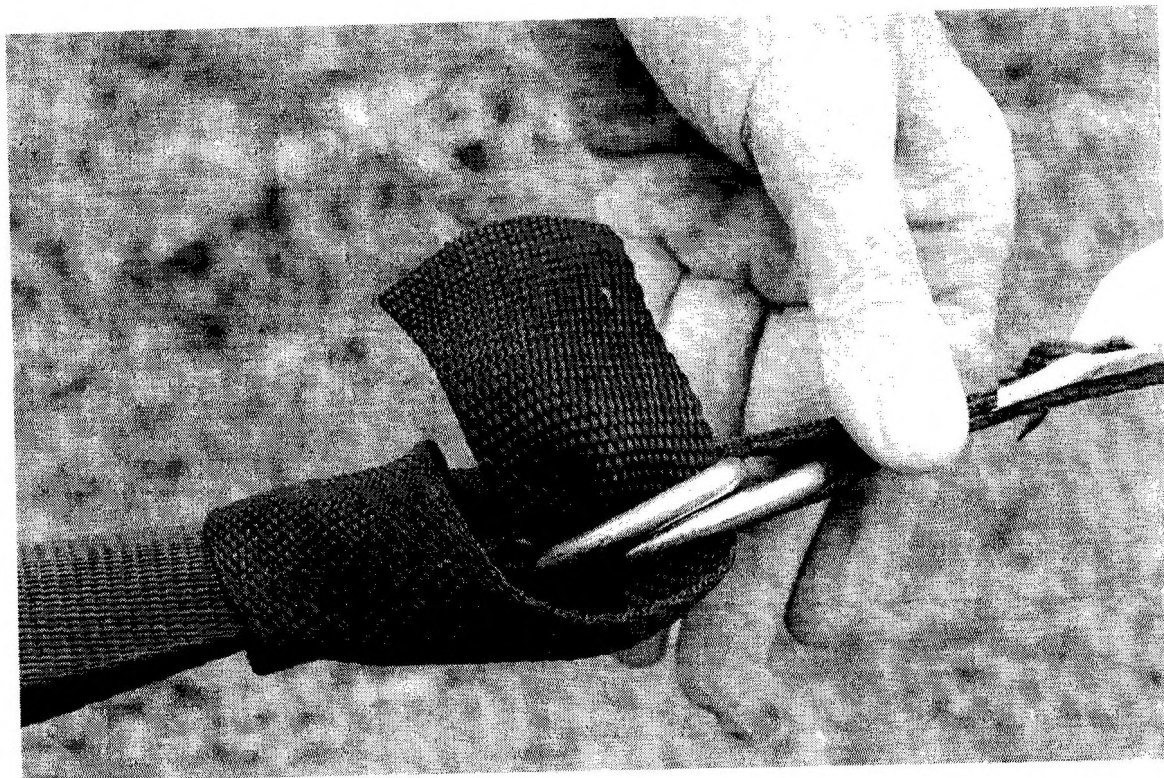

Figure 11: Secure Roof Restraint Strap through rings 1
27. Secure through rings as detailed in Figs 11, 12 & 13.